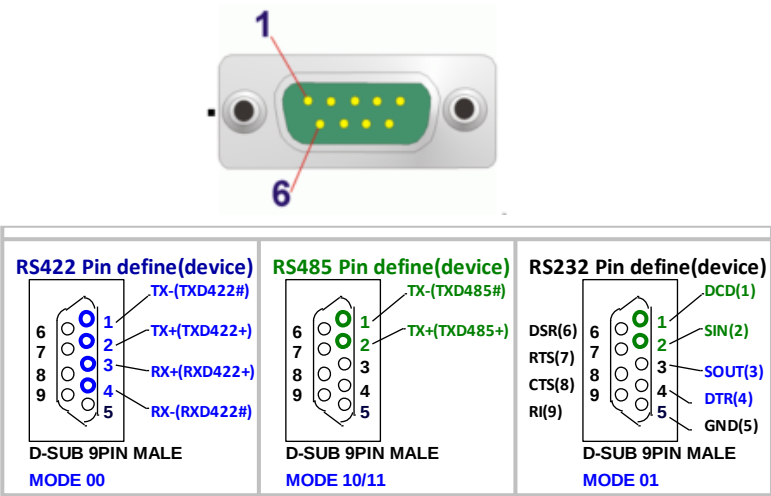

Figure 4-36: External Serial Port Pinout Locations
- CN Location: See Figure 4-36